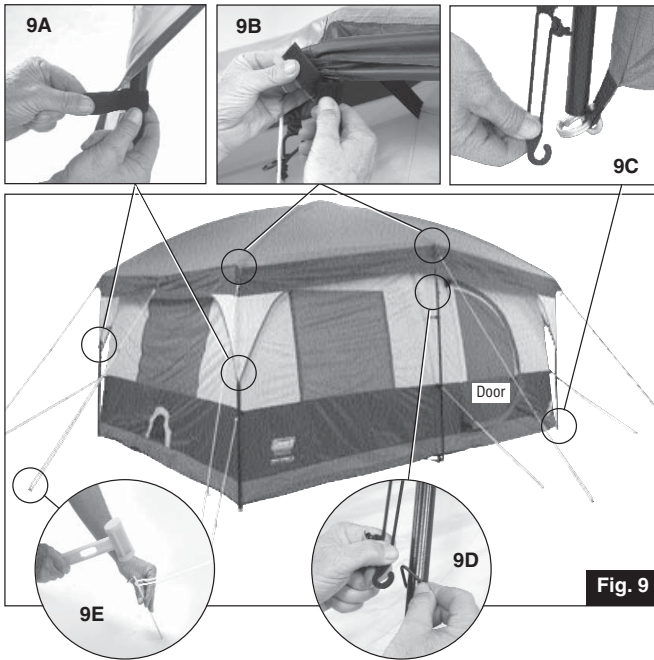

Fig. 9
2. Locate **all** hook & loop fasteners on underside of Rainfly and Leg Covers; then wrap around four corner and front and back Leg Poles to secure. (Fig. 9, 9A, & 9B)
3. Stretch elastic straps and hook clip on each to the metal loops at the four corners of the tent at the bottom of the Leg Poles. (Fig. 9 & 9C)
4. Stretch elastic straps above center front and back leg; then hook onto metal ring on Leg Pole. (Fig. 9 & 9D)
5. Stretch all guylines until taut, then secure with stakes. (Fig. 9 & 9E)